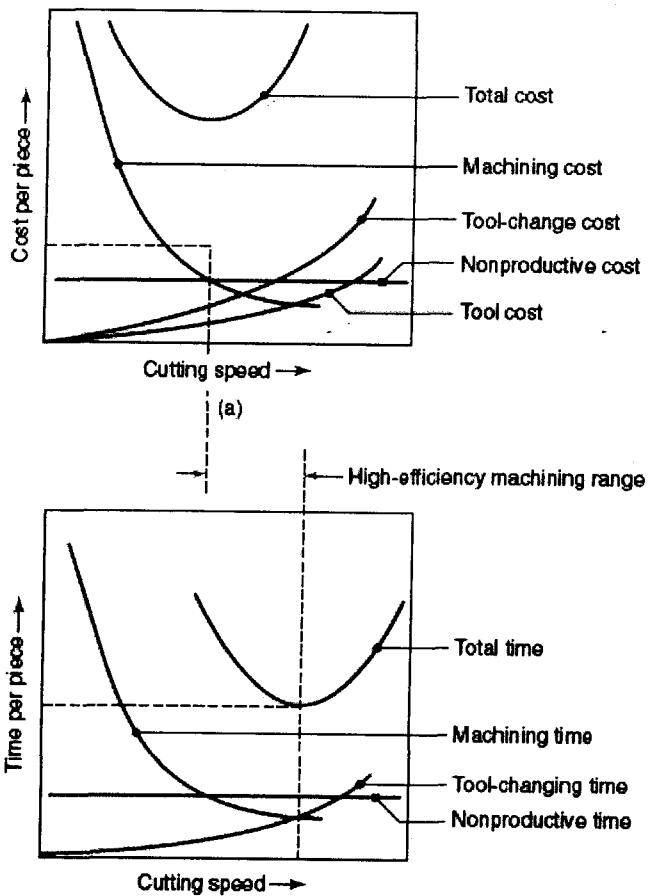

Figure Q1[b] – Machining Economics
- [b] Discuss briefly how would you go about reducing the total machining cost in order to meet the level of economics in machining by referring to the following Figure Q1[b].**